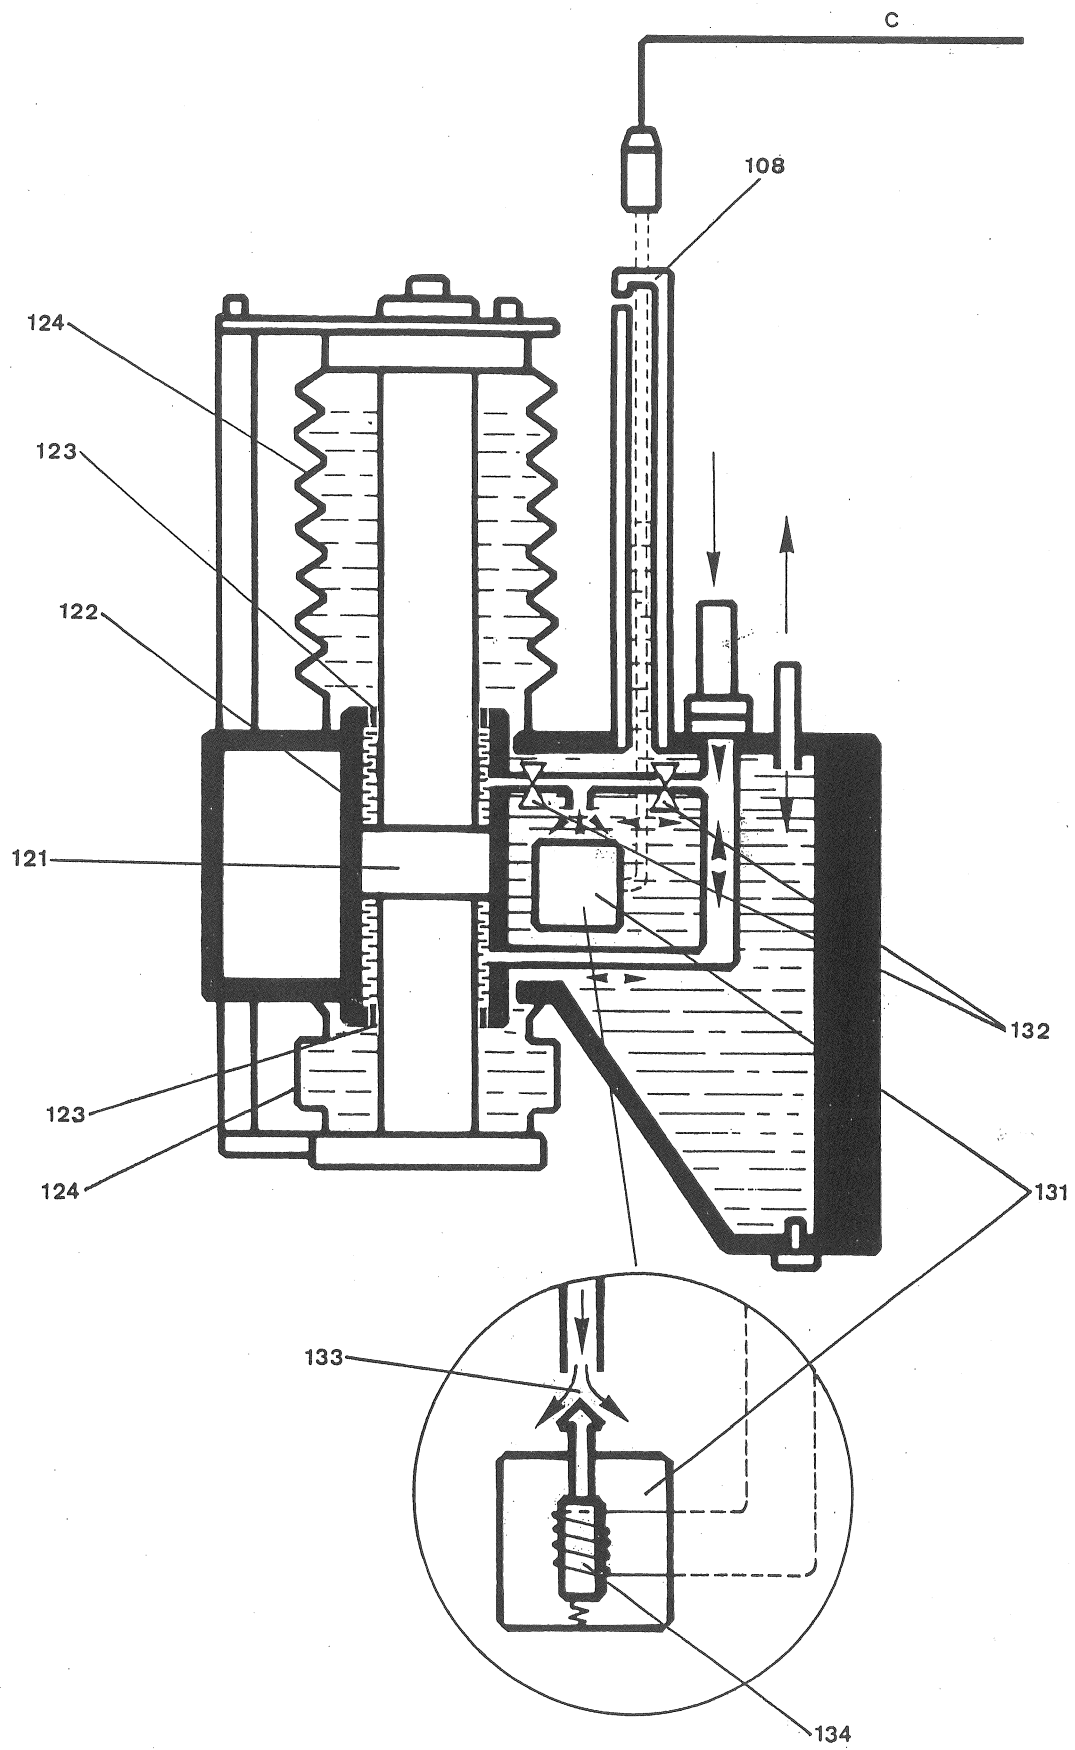

Fig 1
8.8 SERVO-MECHANISM (fig. 1)
- 120 Up and down feed mechanism controlling the electrode travel, protected against dust by rubber bellows (124).
- 134 Electrodynamic coil of the actuator, powered by cable C from the socket (108).
8.9 HYDRAULIC CIRCUIT (fig. 1)
- 109 Air exhaust outlet at the upper end of tube (107).